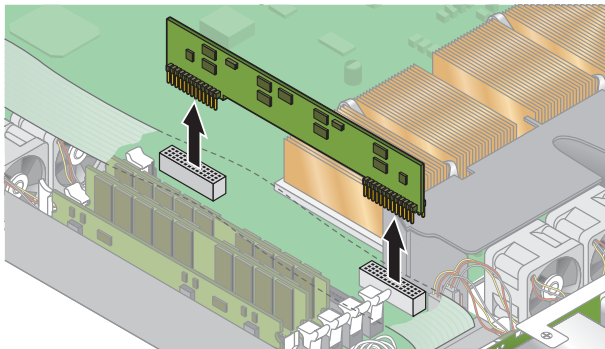

FIGURE 4-23 Removing a CPU VRM
3. Remove the CPU VRM by pulling it *straight up*, out of its socket (see FIGURE 4-23).